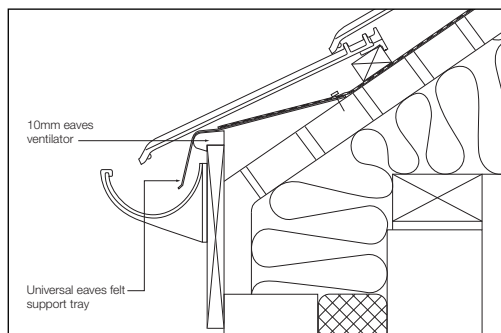

Fig 73 - Eaves detail with 10mm eaves ventilator
- 1 The eaves batten should be set out so that the eaves slates overhang the fascia by 50mm. The height of the fascia, or eaves ventilator, if used, should be in accordance with the table on page 90 so that the eaves course does not kick up or down (Fig 73).